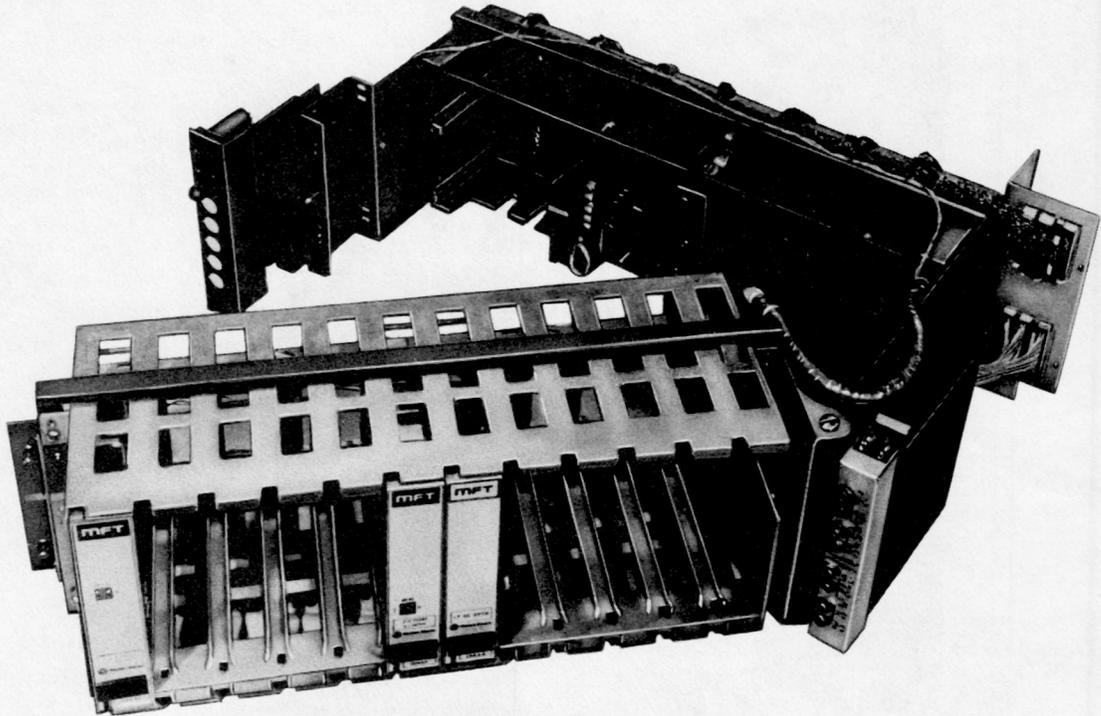

Fig. 28—Double-Depth Shelf Frame (J99380D) With a Double-Module Shelf (J99380E) in Front and a Network Plug-in Shelf (J99380C) in the Rear
- 6.32 An illustration of the double-depth shelf assembly (J99380D) is shown in Fig. 28.